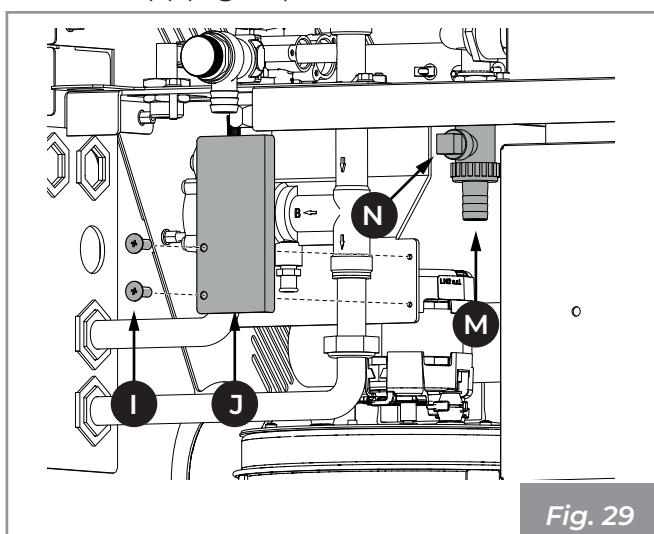

Fig. 29
- 1) Unscrew the screws (I) and remove the protection (J) (Fig. 29).